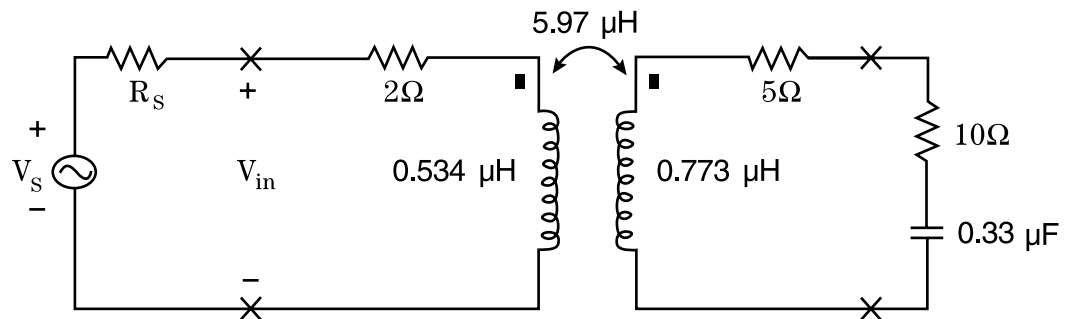

Figure 2: Loaded Linear Transformer
- 1) For this lab the internal resistance of the function generator, R_s , must be determined exactly. Inductances are difficult to measure correctly (even with specialized equipment), so accuracy will become especially important in your calculations of component values. A simple model of the function generator is an independent voltage source with a series resistor (see the left side of figure 2). However, R_s is effectively inside the function generator box, so you cannot directly measure it with an ohmmeter. Keeping this in mind, develop an experimental method to determine the value of R_s . (Hint: Think about how a voltage divider works.)
- 4) Consider the linear transformer given in figure 2 below. Given that the frequency of the input is $f = 500$ kHz, $R_s = 50 \text{ } \Omega$, and the voltage at $V_s = 1 \text{ V}_p$ find: